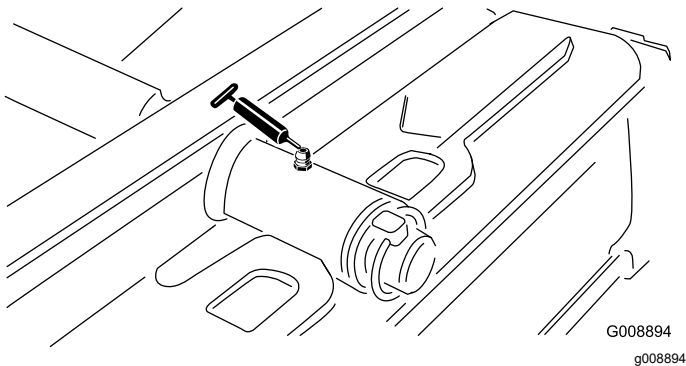

Figure 32
- Rear cutting-unit pivot (Figure 32)